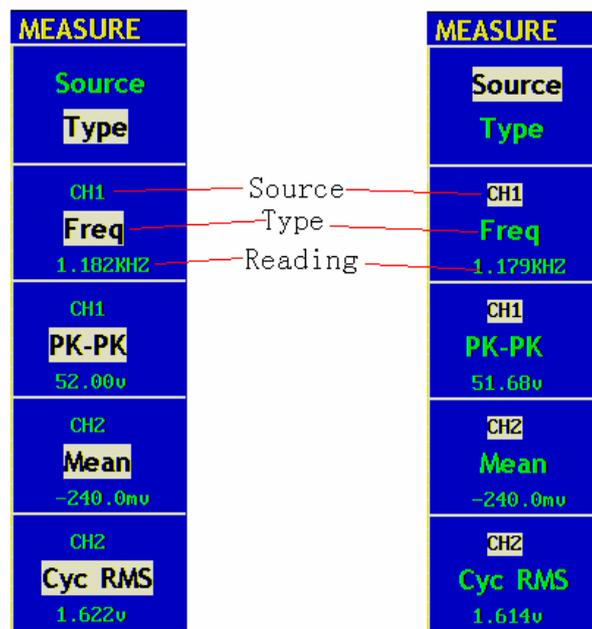

Fig.5-43 Measure Menu
Press the **F1** menu selection button to choose **Source** or **Type** menu. You can choose the channel to be measured from the **Source** menu and choose the measurement **Type** (Freq, Period, Mean, PK-PK, and Cyc RMS). The menu is displayed as **Fig.5-43**.
4. Adjust the positions of **CURSORM1** and **CURSORM2** according to the measured waveform, with the period and frequency of Cursor1 and Cursor 2 displayed in the increment window. The current position of Cursor1 is displayed in the Cursor1 window and that of Cursor2 is displayed in the Cursor2 window (see **Fig.5-43**).